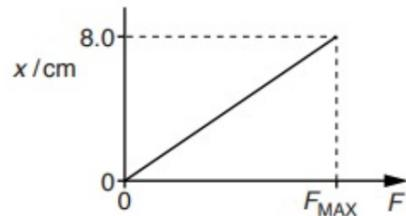

Fig. 3.2
- (ii) The variation of the compression x of the spring with the force F applied to the spring is shown in Fig. 3.2.